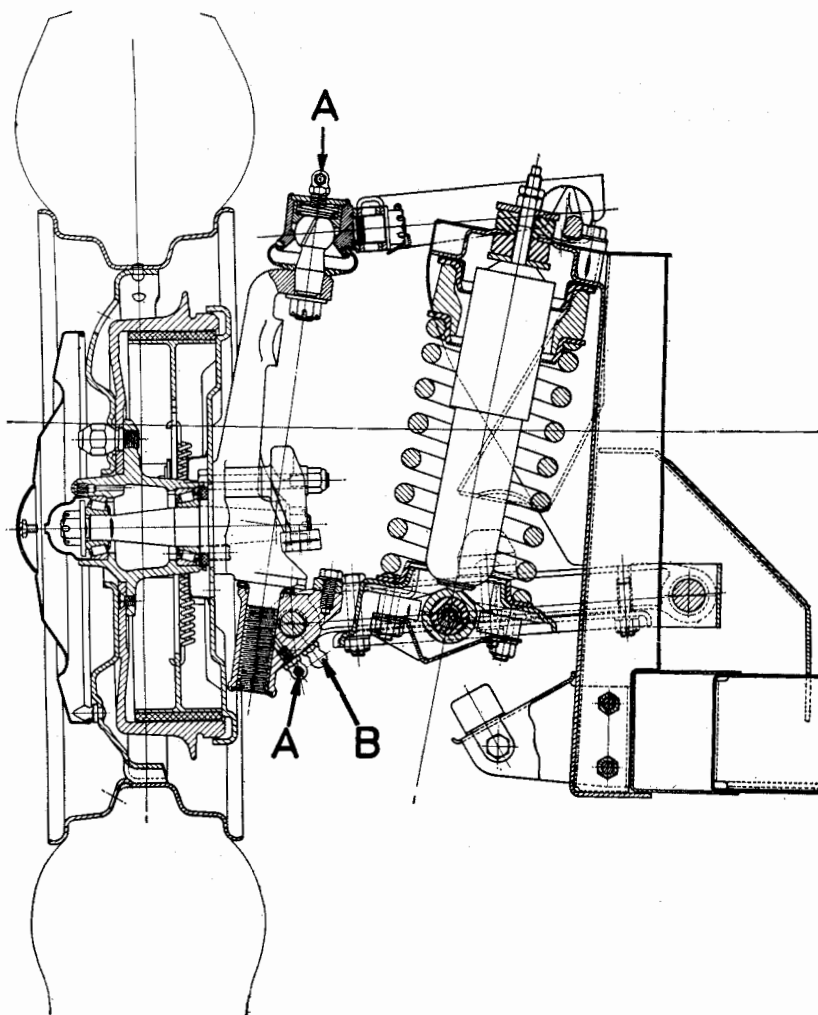

Fig. 10. Front suspension lubrication.
Nipples are provided for the lubrication of the steering swivels (A), outer tie rod, ball joints, outer bushes of the lower wish-bones (see B Fig. 10),